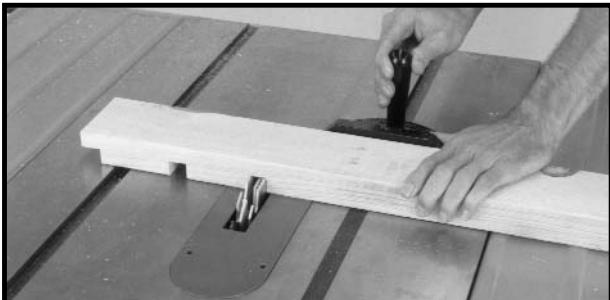

Fig. 52
- Fig. 52, shows a typical dado operation using the miter gage as a guide.